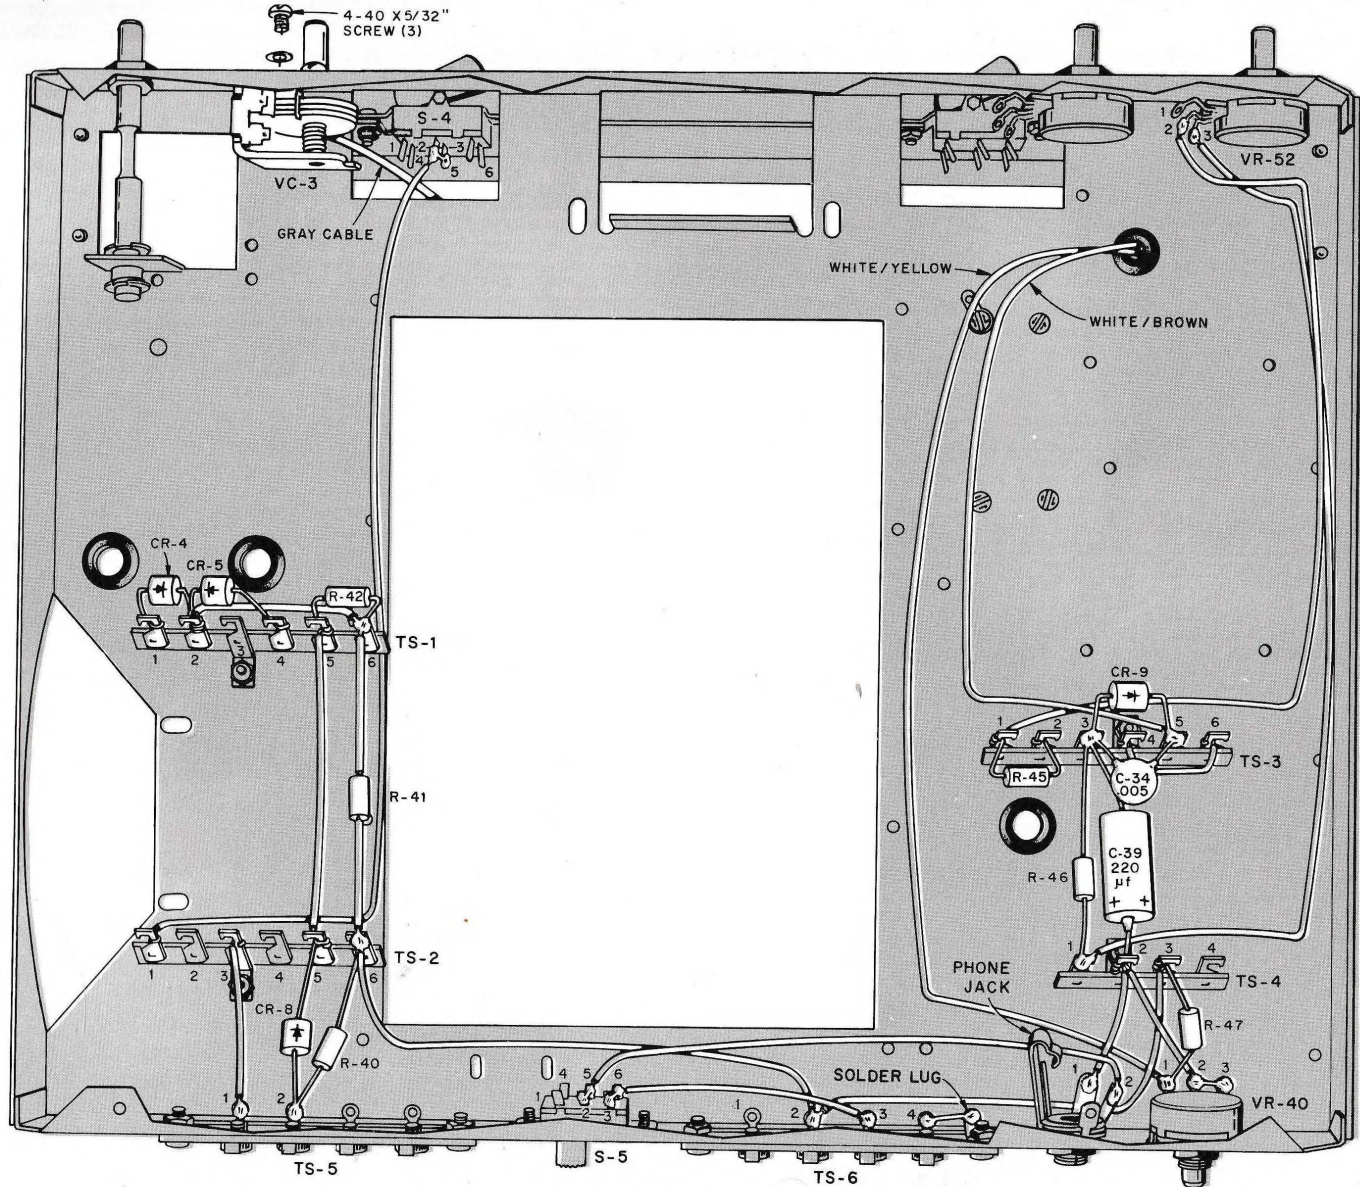

FIGURE 3.
1. Are all the wires and parts illustrated in Figure 3 in your unit? Check your wiring very carefully—it is much easier to catch a mistake now, before all the other parts are in place.